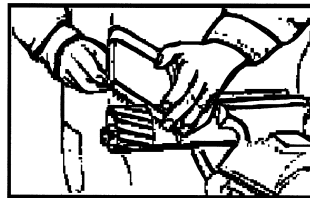

FIG 4.2
5. Cut the powershaft shield off up to the marking. (Fig. 4.2)